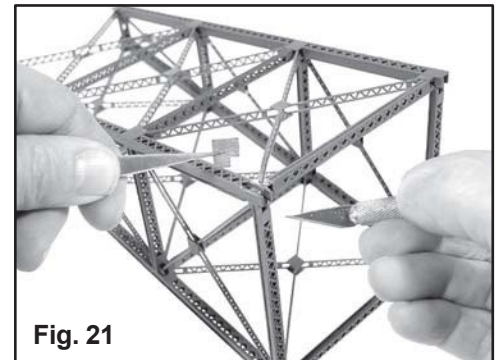

Fig. 21
- 22.** Remove the four tower gusset plates at the base of the three story tower. See Fig. 21.